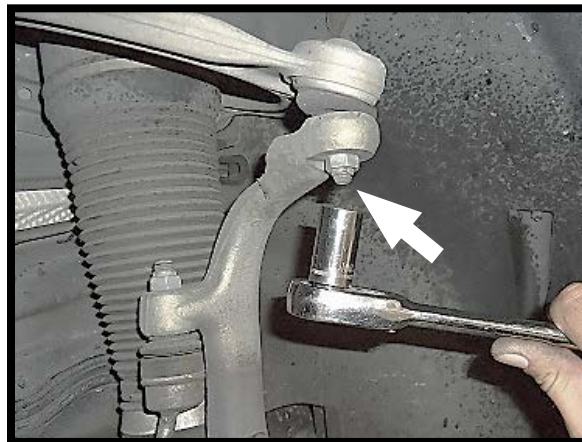

FIGURA 13
8. AFLOJE LA TUERCA DEL BRAZO DE CONTROL SUPERIOR. (FIGURA 13)